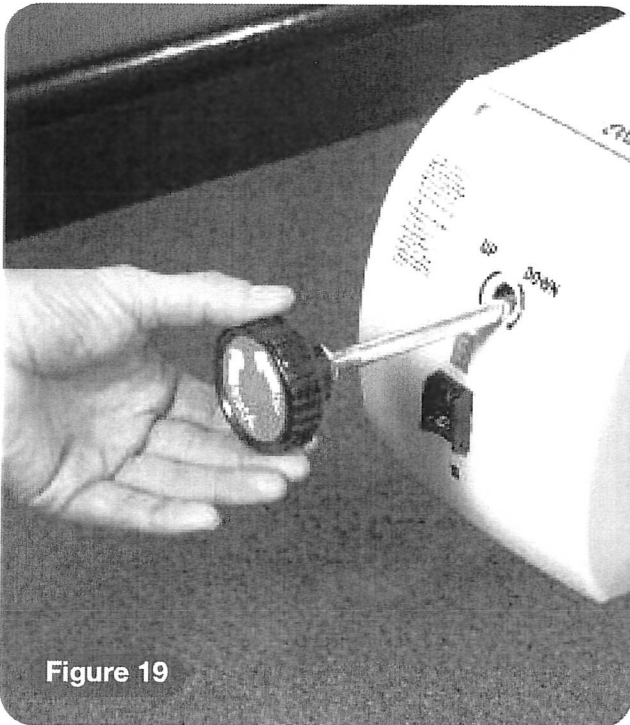

Figure 19
- 2 Insert the emergency hand winding knob (Figure 19). The position of the hand winding hole will always be on the downside main body panel, regardless of the model that you have.
**If in any doubt contact your local Handicare approved dealer or ring Handicare direct on +44 (0) 3700 118282.**